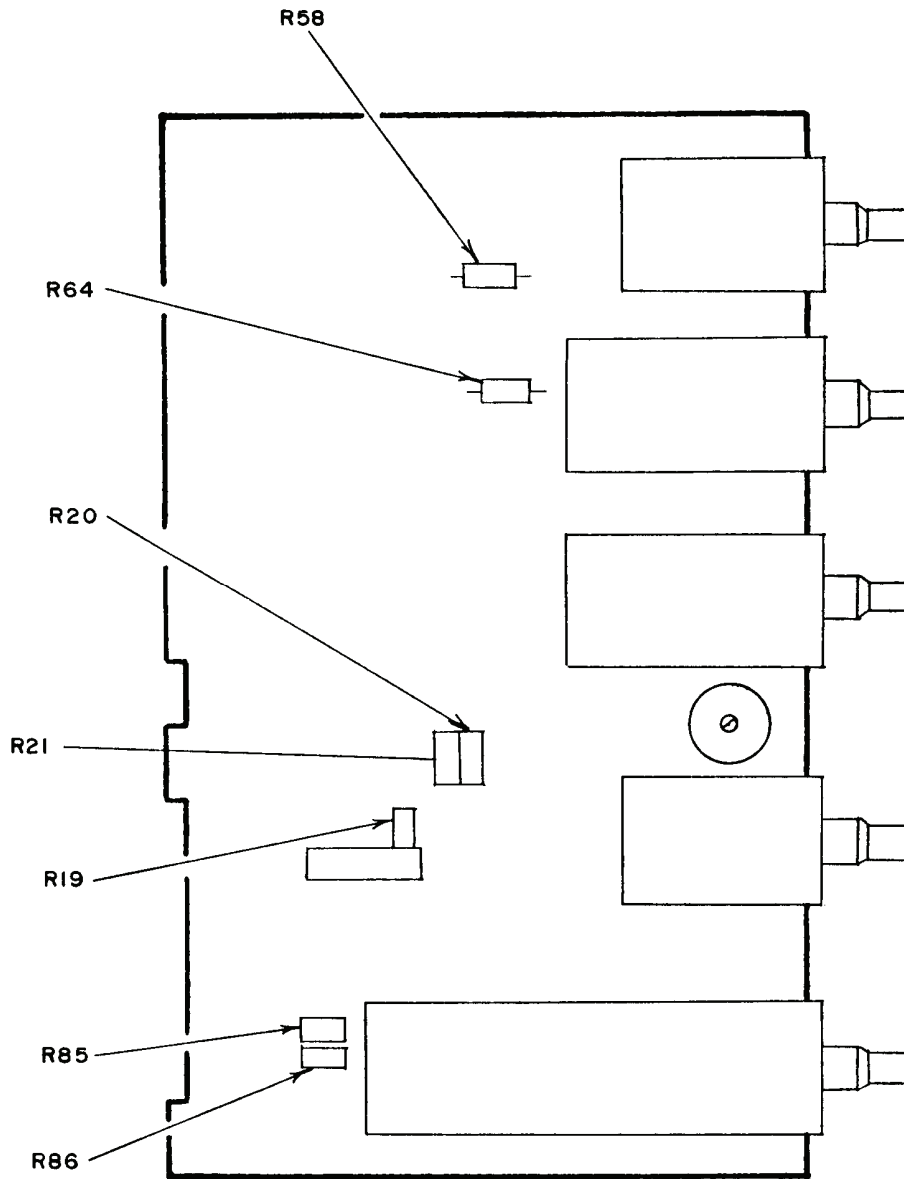

Figure 2. Gull Airborne Instruments, Model GTF-4 – adjustment locations
- b. Adjustments.** Adjust R85 (fig. 2) on 200 pF range and R86 on 1000 pF range for a zero indication then repeat (2) through (4) above.
- (1) Adjust R58 (fig. 2) for a reading of 0.1000 MΩ on digital indication.
- (2) Adjust R64 (fig. 2) for a reading of 0.9500 MΩ.